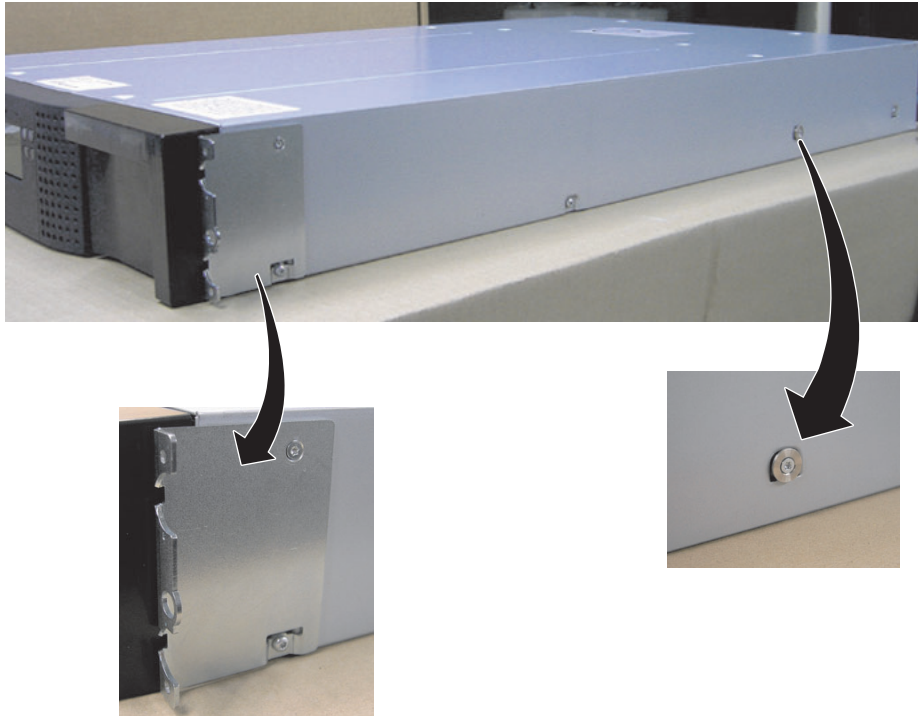

Figure 4. Installing the anchors and mounting brackets
7. Install the autoloader rack anchors and mounting brackets as shown in Figure 4 on page 7.